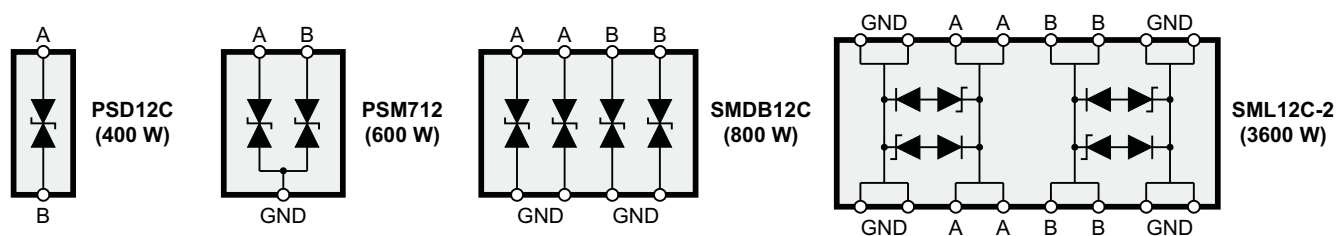
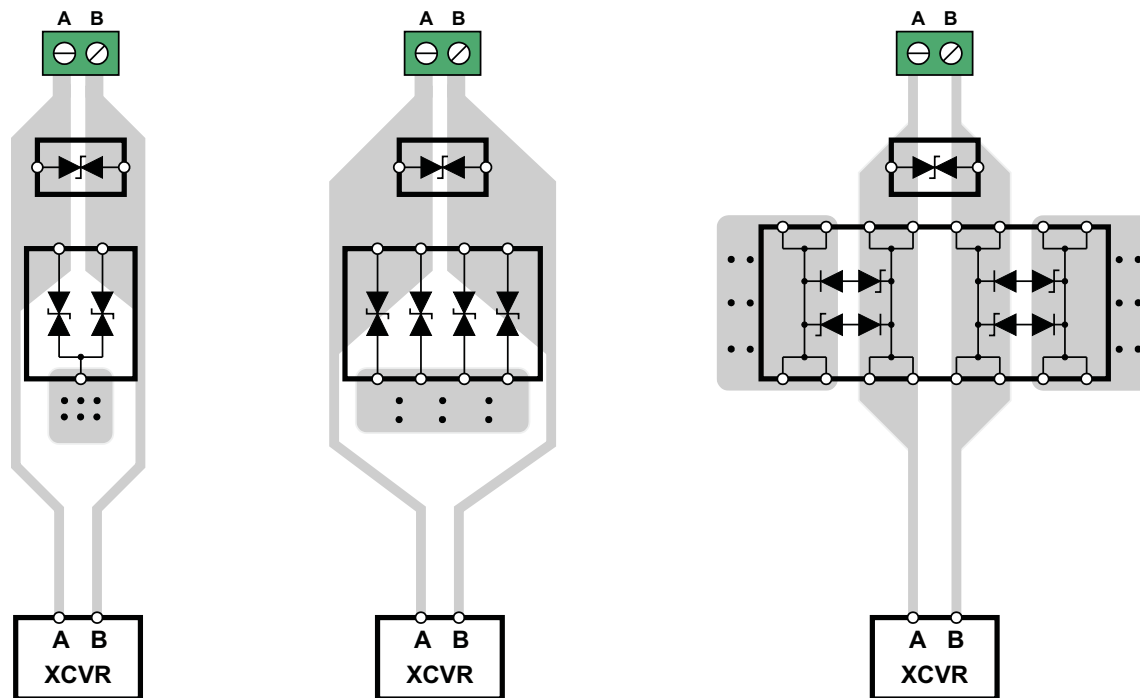

Figure 7. TVS Diodes in Various Topologies and Power Ratings
Figure 8. Routing Options for Different Topologies
- In addition to select a TVS with sufficient power rating, look for a device topology that allows smooth routing of the signal traces between the connector and the transceiver. Figure 7 presents some TVS diodes with 12V stand-off voltage, but different power ratings and topologies, and Figure 8 provides routing suggestions for minimum inductance paths, based on the TVS component layout.